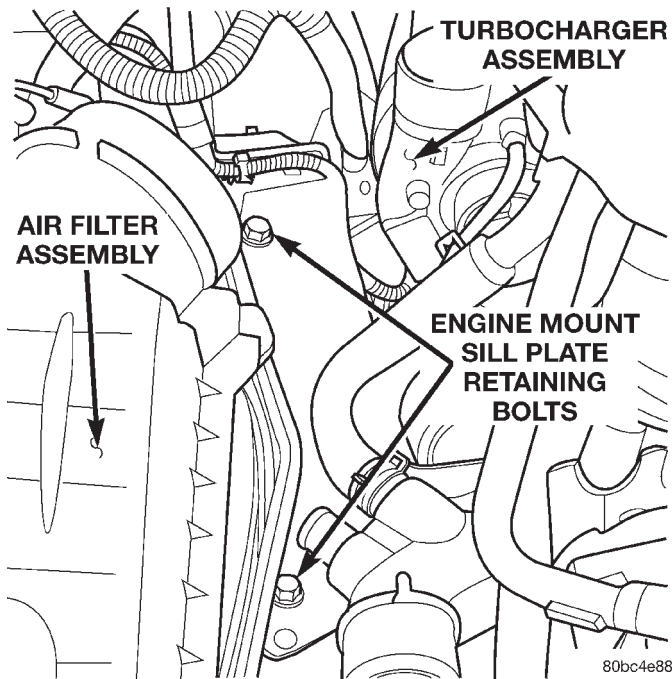
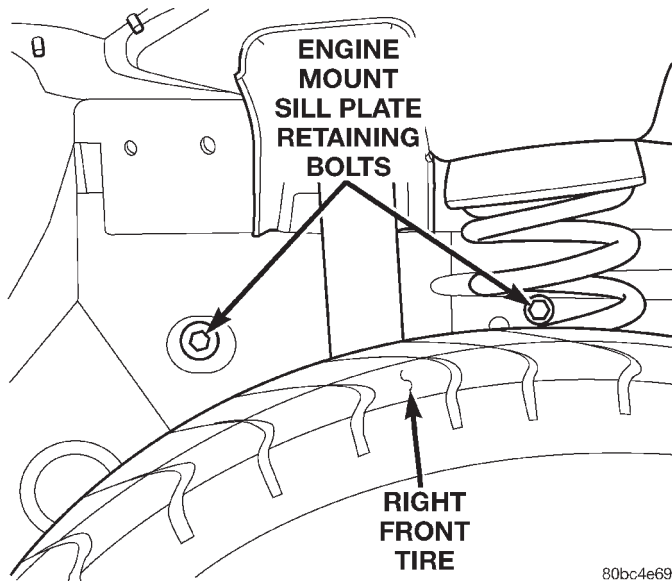

Fig. 23 Engine Mount Sill Plate Bolts - Rightside
Fig. 24 Engine Mount Sill Plate Bolts - Right Wheel Well
- (11) Install the rightside engine mount sill plate retaining bolts (Fig. 23). Leave loose at this time.
- (12) Partially raise the vehicle on the hoist.
- (13) Install the engine mount sill plate retaining bolts in the right wheel well (Fig. 24). Leave loose at this time.